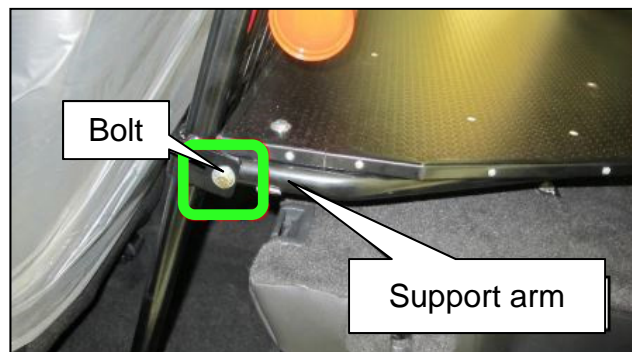
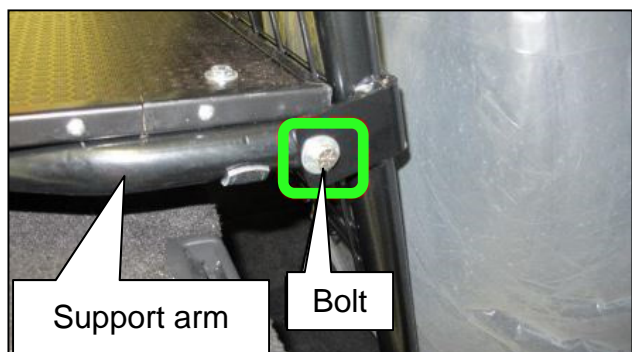

Figure 17
Figure 18
24. Install the support arm to partition mount bolts/washers and nuts on both sides (Figure 17 and Figure 18).